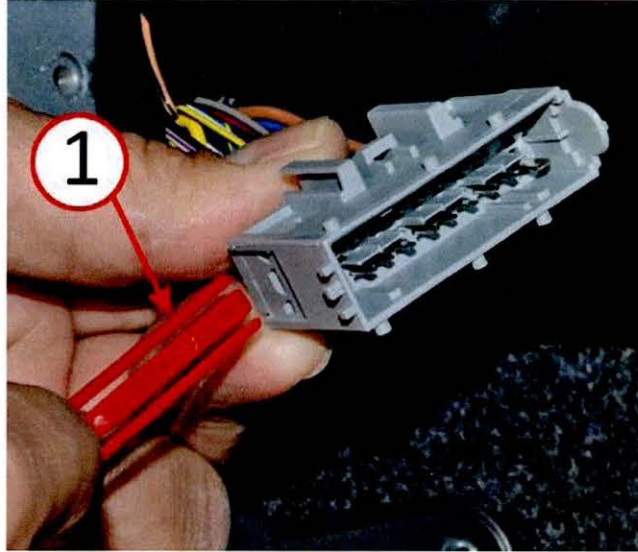

**Fig. 13 Left Door Inline Electrical Connector Unlock**
18. Disconnect the left front door inline electrical connector C153 by sliding the blue electrical connector lock (Fig. 13).